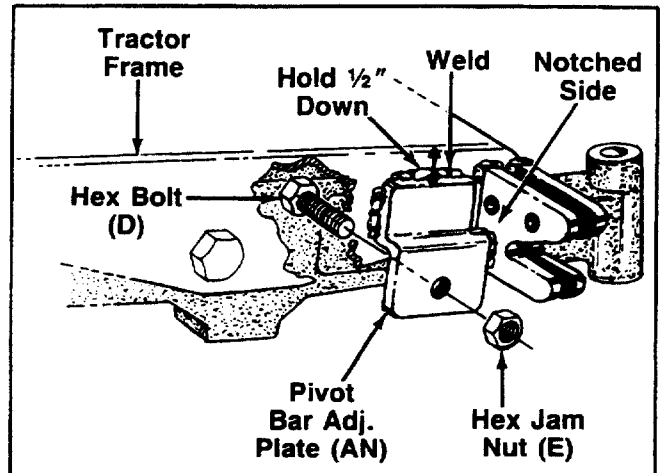

FIGURE 12.
1. Preassemble hex bolts (D) and hex jam nuts (E) to the pivot bar adjustment plates (AM and AN) as shown in figure 12.
2. With the tractor in the raised position, clamp the pivot bar adjustment plates (AM and AN) in position on frame (1/2" down) and weld as shown in figure 12.